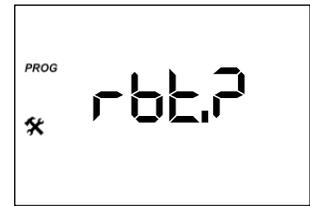

Fig. 11
- From INSTALLER PROGRAMMING MODE, press  until “rbt?” is visible (Fig.11).